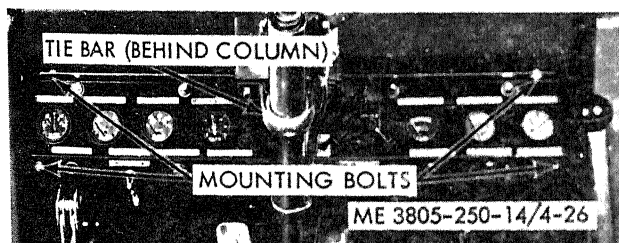

Figure 4-26. Instrument panel, removal and installation.
(1) Disconnect the battery cables. Open the drain cocks on the air reservoir to relieve air pressure.
(2) Remove three bolts, washers, lockwashers, and nuts (fig. 4-26) holding each panel half in place.